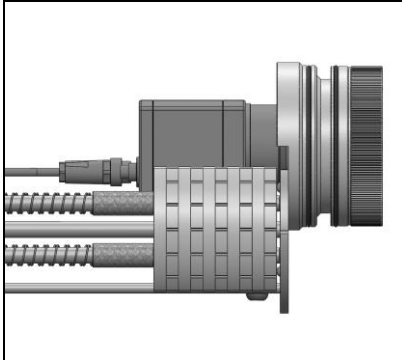
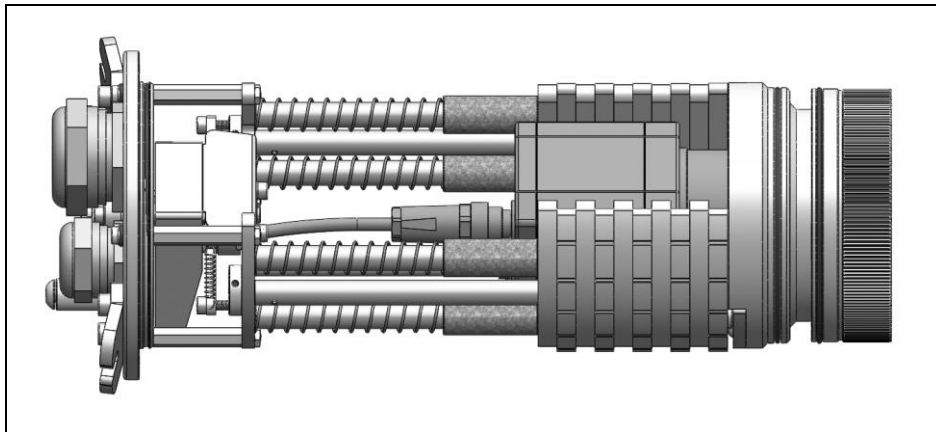

Figure 28: Inserting of the focusing unit
Figure 31: Focusing unit with camera
2. Seat the focusing unit or front part in the chassis (**Figure 28**). Position it as shown in **Figure 31**, by pushing it to the bottom. The TIM M-1/ TIM M-05 camera is first placed into the chassis without the front part. After that the front part is attached to the optic. Make sure that the front part is placed at a height of approx. 5 mm above the optic in order to be able to slide it over the chassis front plate (**Figure 31**).